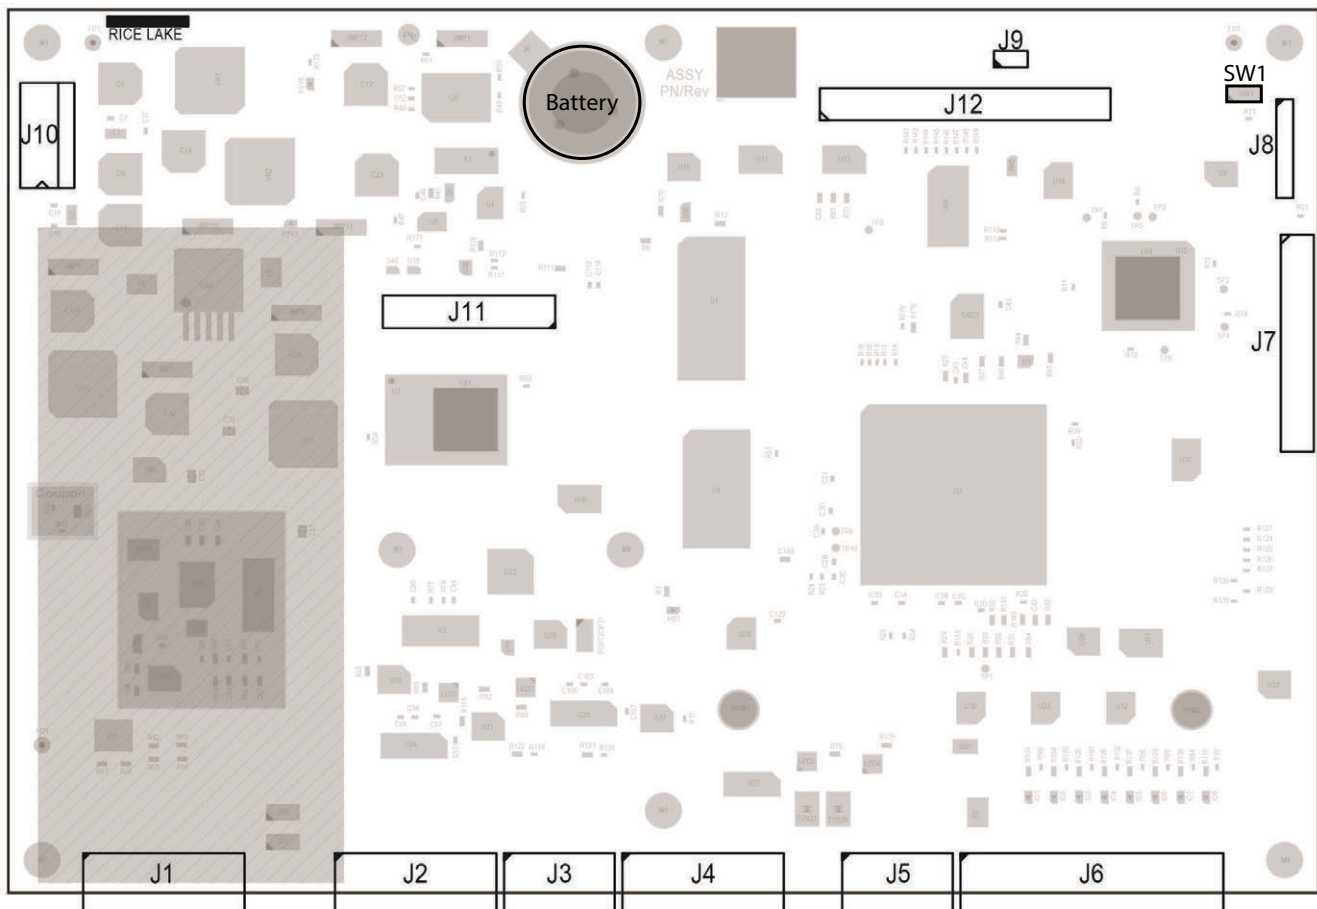
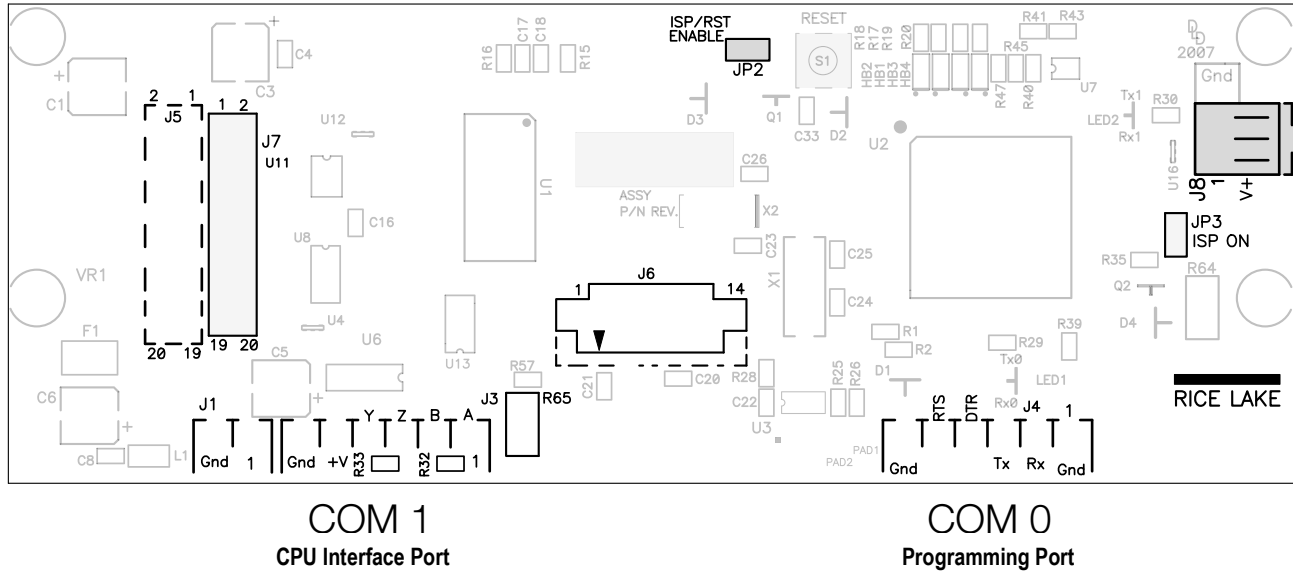

Figure 3-2. 720i CPU Board
Figure 3-3. 720i Display Board
NOTE: Installation of option cards in connector J11 requires removal of the PORT2/OPT1 port selection jumper (Figure 3-2 on page 18). Install the jumper to enable RS-232 communications through connector J2; remove the jumper to enable a USB or Ethernet option card installed in connector J11.
Table 3-6 shows the connections between connector J4 on the 720i CPU board and connector J3 (Com 1) on the detached display module (DDM) board. See board diagrams in Figure 3-2 on page 18 and Figure 3-3 on page 19.
2. Carefully align the option card connector with connector J12 or J11 on the CPU board (Figure 3-2).
4. Use the screws provided in the option kit to secure the other end of the option card to the threaded standoffs on the CPU board (Figure 3-2).
Table 3-7 lists the slot numbers, CPU board connectors and configuration assignments made for both onboard and expansion card functions in the 720i. See Figure 3-2 on page 18 for connector locations.